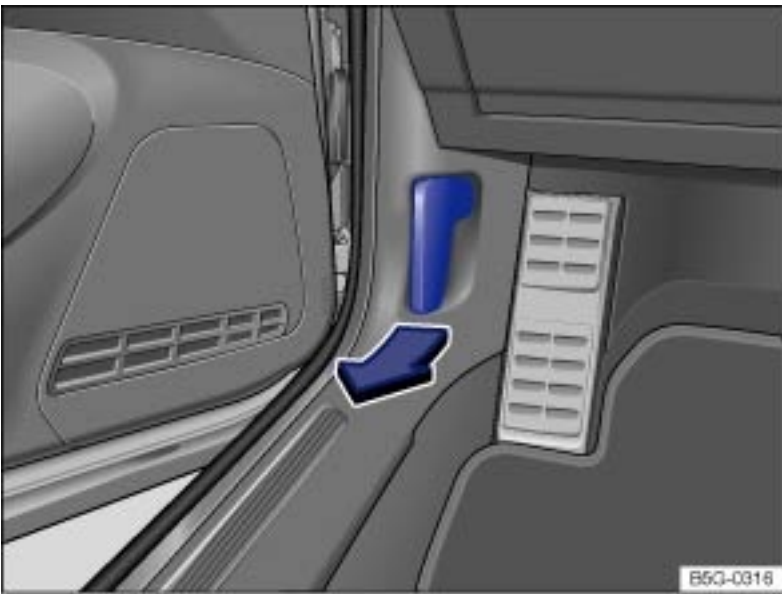

Fig. 188 In the footwell on the driver side: Inside engine hood release lever.
- ▶ Open the driver door and pull the inside hood release lever in the direction of the arrow → Fig. 188. The engine hood is released from its latch by a spring → .